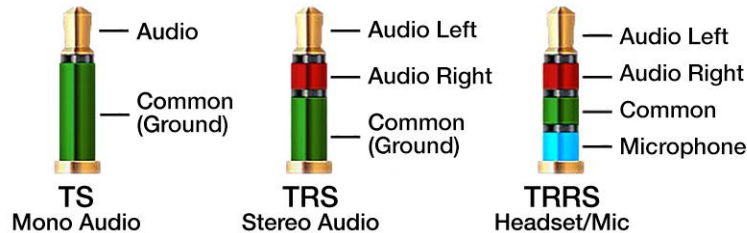

Figure 1: 3.5mm audio jack pinout diagrams
Input to the audio amplifier is provided by a 3.5mm tip-ring-sleeve (TRS) jack. The TRS jack is commonly used to transmit stereo audio signals. Stereo refers to an audio signal that contains both left and right channels. The pinout of a TRS jack can be seen in Figure 1. As the input contains two channels, but the amplifier only has one output channel, the two channels must be combined to produce a single signal. This is accomplished by R506 and R507, which form a simple audio “mixer.” The mixer simply adds equal portions of each input channel to produce the input to the amplifier.
2. Obtain a 3.5mm audio input cable from the back of the lab. With the output turned off, connect the positive lead of the function generator to the tip of the TRS connector and the negative lead to the sleeve. See Figure 1 if you are unsure of how to do this. Insert the other end of the cable into J502.